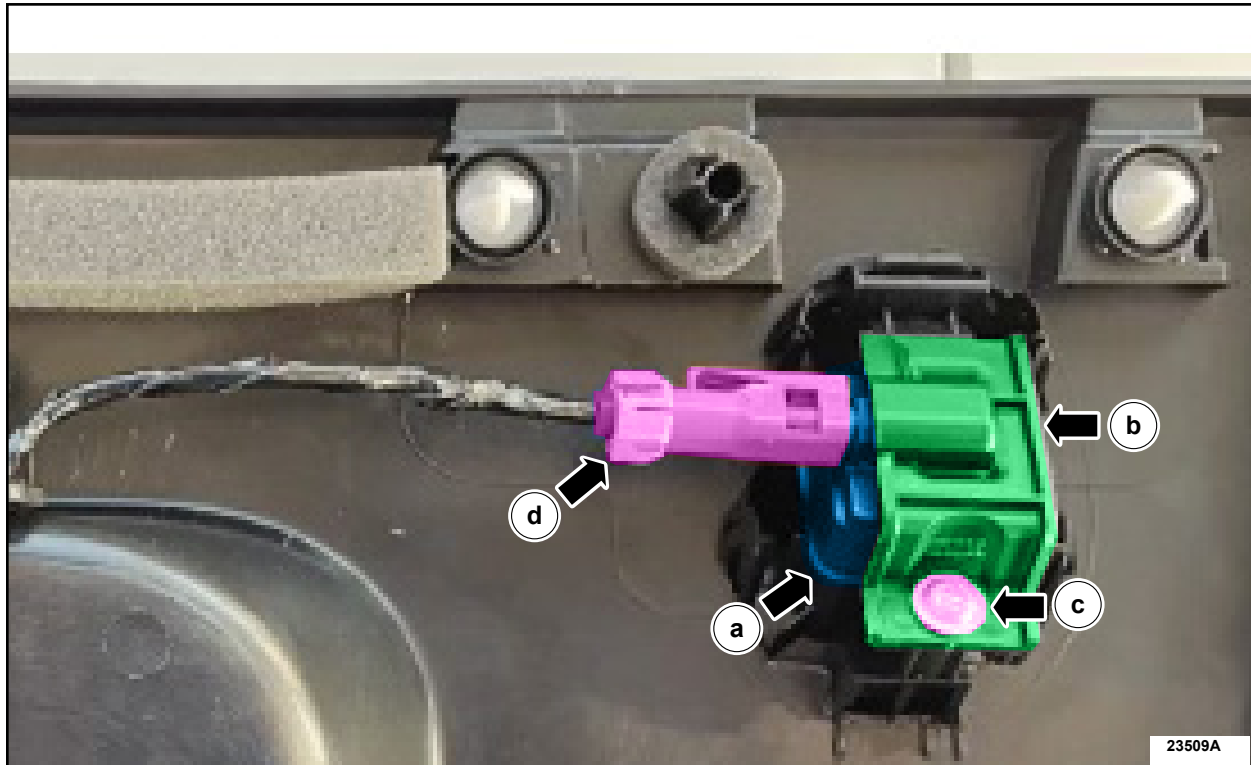

FIGURE 11
3. Install the *new* rear view camera. See Figure 11.